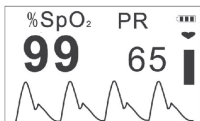
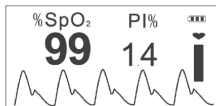
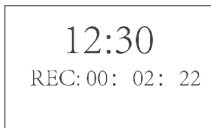

Figure 9A Default Screen Display
Figure 9C
Figure 9D Real Time Clock
- The oximeter will automatically start measurement in 2 seconds. Then the default screen will be displayed (Figure 9A). User can read the values and view the waveform from the display screen.
- Short press “**■**” key to switch display modes circularly, display screen will be switched among the three measure screens displays as shown in Figure 9A, Figure 9C and Figure 9D.
- The measurement will start automatically when the finger is inserted into the SpO₂ probe, so the data recording (SpO₂ and PR value) starts simultaneously as well. The display is as shown in Figure 9A.